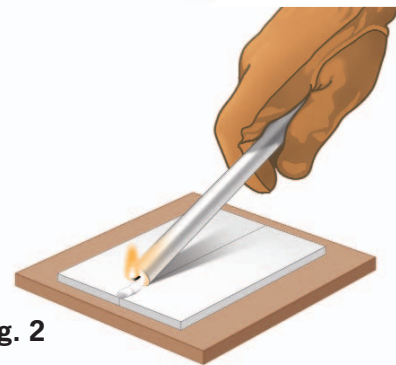

Fig. 2
2. Light the candle and slowly and carefully run the flame along the top joint as shown in Fig. 2. Move the flame slowly enough to just melt the edges of the blocks and keep the candle tilted enough to allow the melted candle wax to drip into the seam.